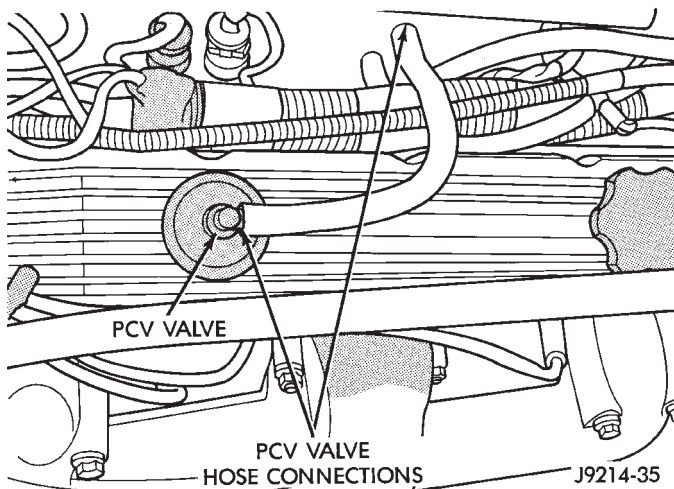

Fig. 4 PCV Valve Hose Connections
(6) Verify that generator output wire, generator connector and ground wire are firmly connected to the generator.
(7) Inspect the system body grounds for loose or dirty connections. Refer to Group 8W, Wiring for location of body ground connections.
(8) Verify Positive Crankcase Ventilation (PCV) valve operation. Refer to Group 25, Emission Control System for additional information. Verify PCV valve hose is firmly connected to PCV valve and manifold (Fig. 4).